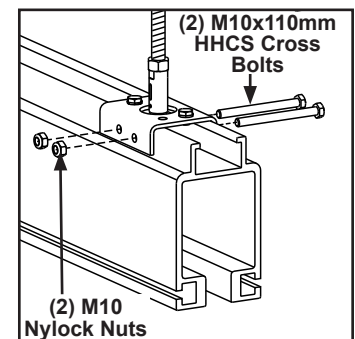

Figure 3-47
- Step 3. Install two (2) M10 x 110 mm HHCS with M10 nylock nuts. **Tighten until bolts are snug + 1/4 turn.** Do not over tighten. Over tightening could cause bracket to bend. See Figure 3-47.